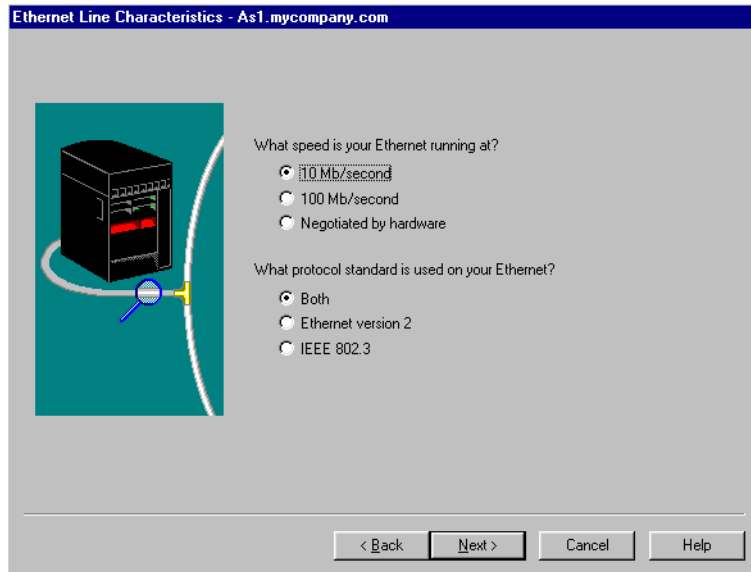

Figure 314. Ethernet Line Characteristics
6. Enter a Name and a Description for the new line. Select the appropriate values for Duplex and Authority based on your environment. The Help button provides additional information to assist you in determining your correct values. The Duplex value is based on the type of network hardware you are using to construct your physical LAN. Click **Next**. The Ethernet Line Characteristics window appears (Figure 314 on page 540).